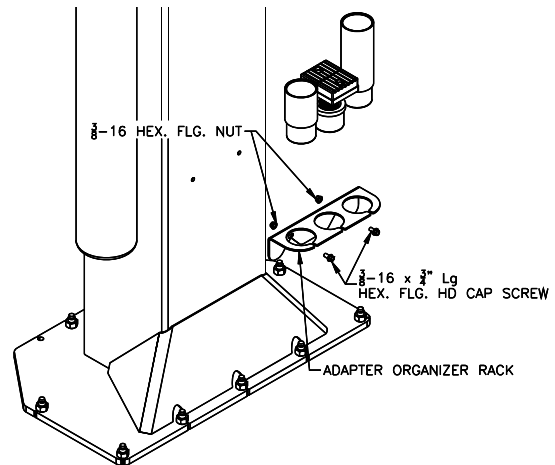

Fig. 16-Adapter Rack Installation
- 31) Locate the two pre-drilled holes on the back of each column 19" up from the top of the base plate and tap 5/16"-18. Center the adapter rack and attach with 3/8"-16 x 3/4" Lg hex flange cap screw and 3/8"-16 hex flange nut (**Fig. 16**).